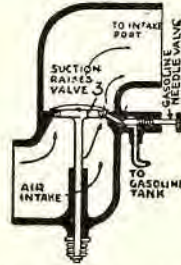

Fig. 1. Early form of a carburetor; a mixing valve.
In the early days the method of mixing the gasoline and air in proper proportions was by means of a "mixing valve" (Fig. 1). It could also be termed a carburetor but without the float cut-off mechanism. The air was drawn in at "air intake," through valve (3), being opened automatically by suction of the piston, forming a vacuum in the crank case when going up (on a "two-cycle" engine), or when the inlet valve was open and the piston traveling down on suction stroke on a "four-cycle" engine. If, therefore, the gasoline needle valve was open, gasoline would also be drawn in, mixed with the air, and pass into the cylinder in a partially vaporized condition.